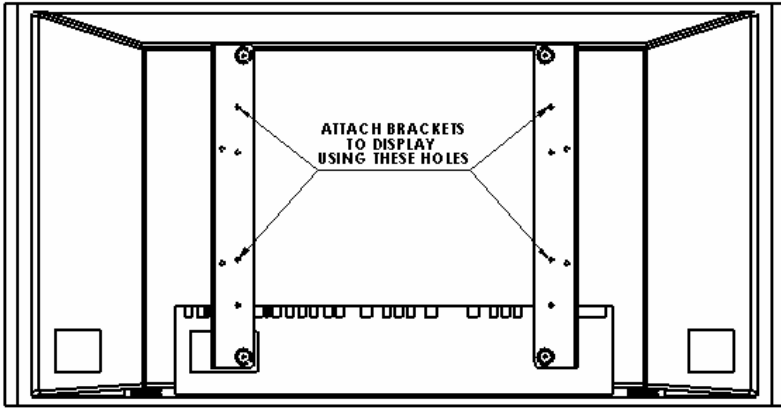

Figure 4
2. Attach the mounting brackets to the display using the (4) M4 screws and spacers (see Figure 4 and 5)